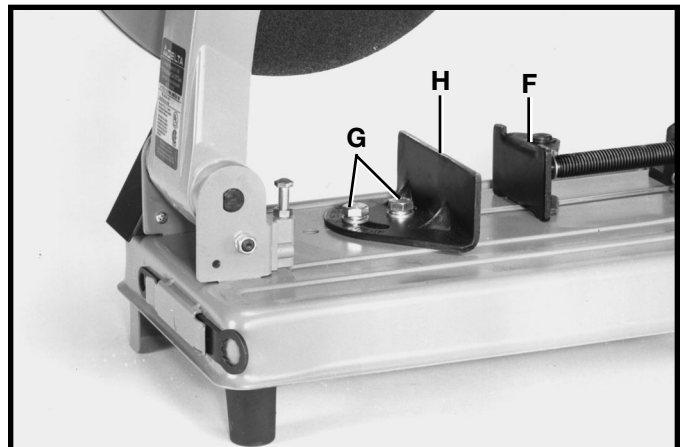

Fig. 12
1. Loosen two screws (G) Fig. 12, and rotate rear vise clamp (H) to the desired angle. Then tighten the two screws (G). The front vise clamp (F) pivots on its post and will automatically align itself with the workpiece.